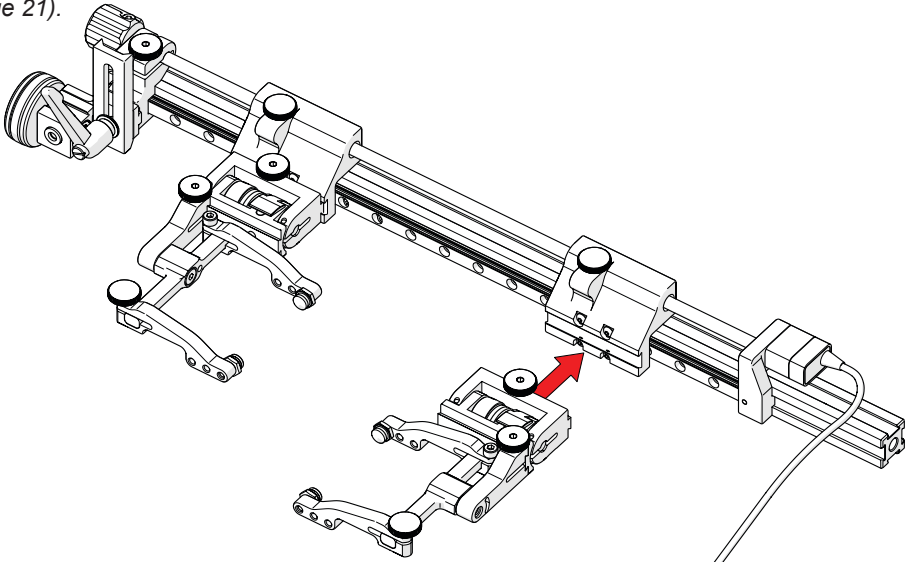

Fig. 25 - Mount probe holders
1. Attach the probe holders (see *Slip Joint Probe Holder* on page 24) to the carriage (Fig. 25).